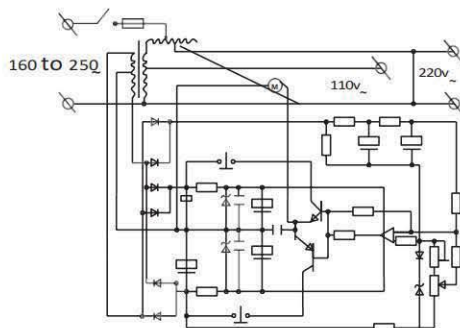

Fig. 2
- The electrical schematic of the 0.5kVA to 1.5kVA high precision full motion AC regulator is shown in Figure 2;